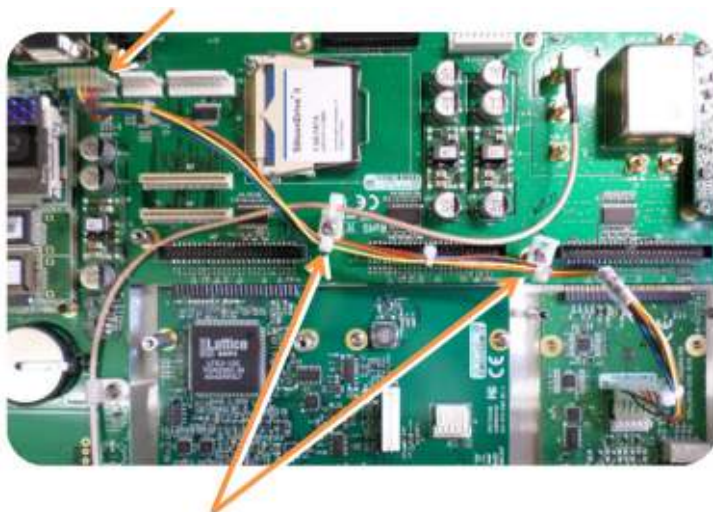

Figure 12: Cable routing
- (b) Using the supplied cable ties, secure the cable, part number 8195-0000-5000, from the option card to the white nylon cable tie holders fastened to the mainboard (see Figure 12).